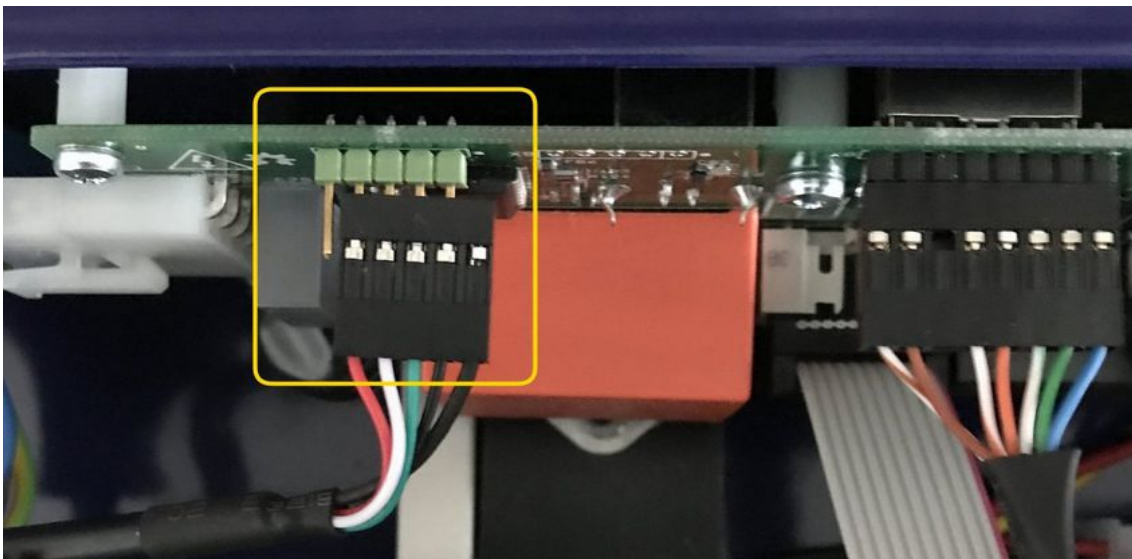

Fig. 36: Swapped USB connector
- USB cable is shutting down a whole unit – unfortunately your USB patch cable is faulty. Please check wiring pin by pin (i.e. check if red wire is connected with +VUSB, black with GND, etc.). It's possible that you have to rotate it as one user suggested as shown on Fig. 36. If that is not acceptable, you can try to detach pin by pin from the header and put them on the right place.